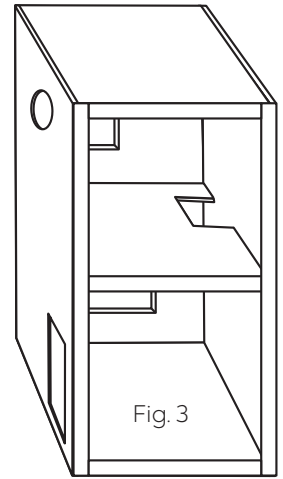

Fig. 3
1. The trim pieces cover the exposed cut edges of the box, longer pieces extending over the shorter ones at the corners (Fig 3). Dry fit both longer pieces in place and mark the position of the floor.